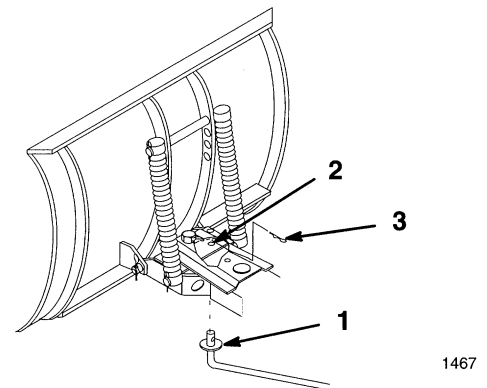

Figure 3
6. Attach one end of control rod to index lever with hairpin cotter. (Fig. 3).
7. Insert control rod end with welded washer thru hole in bottom plate of channel weldment (Fig. 3). Secure with cotter pin, between the plates.